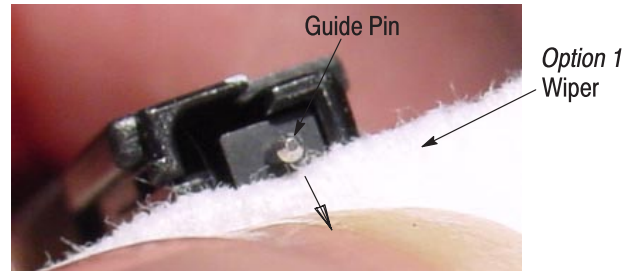

Figure 4
4. Option 1 (refer to Figure 4):